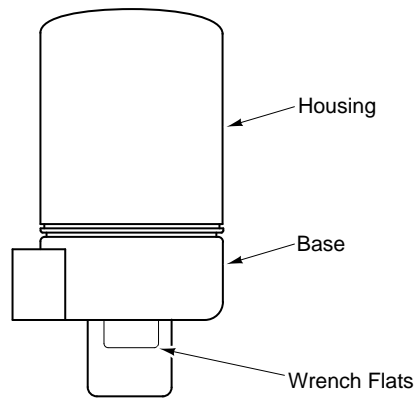

Figure-4 Housing and Base Location.
Caution: Do not twist or exert any force on the actuator housing during installation. Either turn the base by hand or, if necessary, use a 1-5/8" open-ended wrench (TOOL-37) on the flats provided on the actuator base or the valve body mounting nut. Refer to Figure-4 .
- Do not twist or exert any force on the actuator housing during installation. Either turn the base by hand or, if necessary, use a 1-5/8" open-ended wrench (TOOL-37) on the flats provided on the actuator base, or on the valve body mounting nut. (Refer to Figure-4)